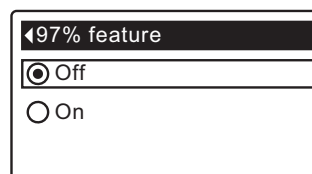

FIG. 81
- 8c. **97% feature:** If the desired option already has a black dot next to it (See Figure 81), go to Step 9. Otherwise, press the DOWN (▼) or UP (▲) buttons to scroll to the other option, then press SELECT (O) to choose it. If this feature is On, the softener will automatically recharge when 97% of capacity is used, at any time of day. Default is Off.